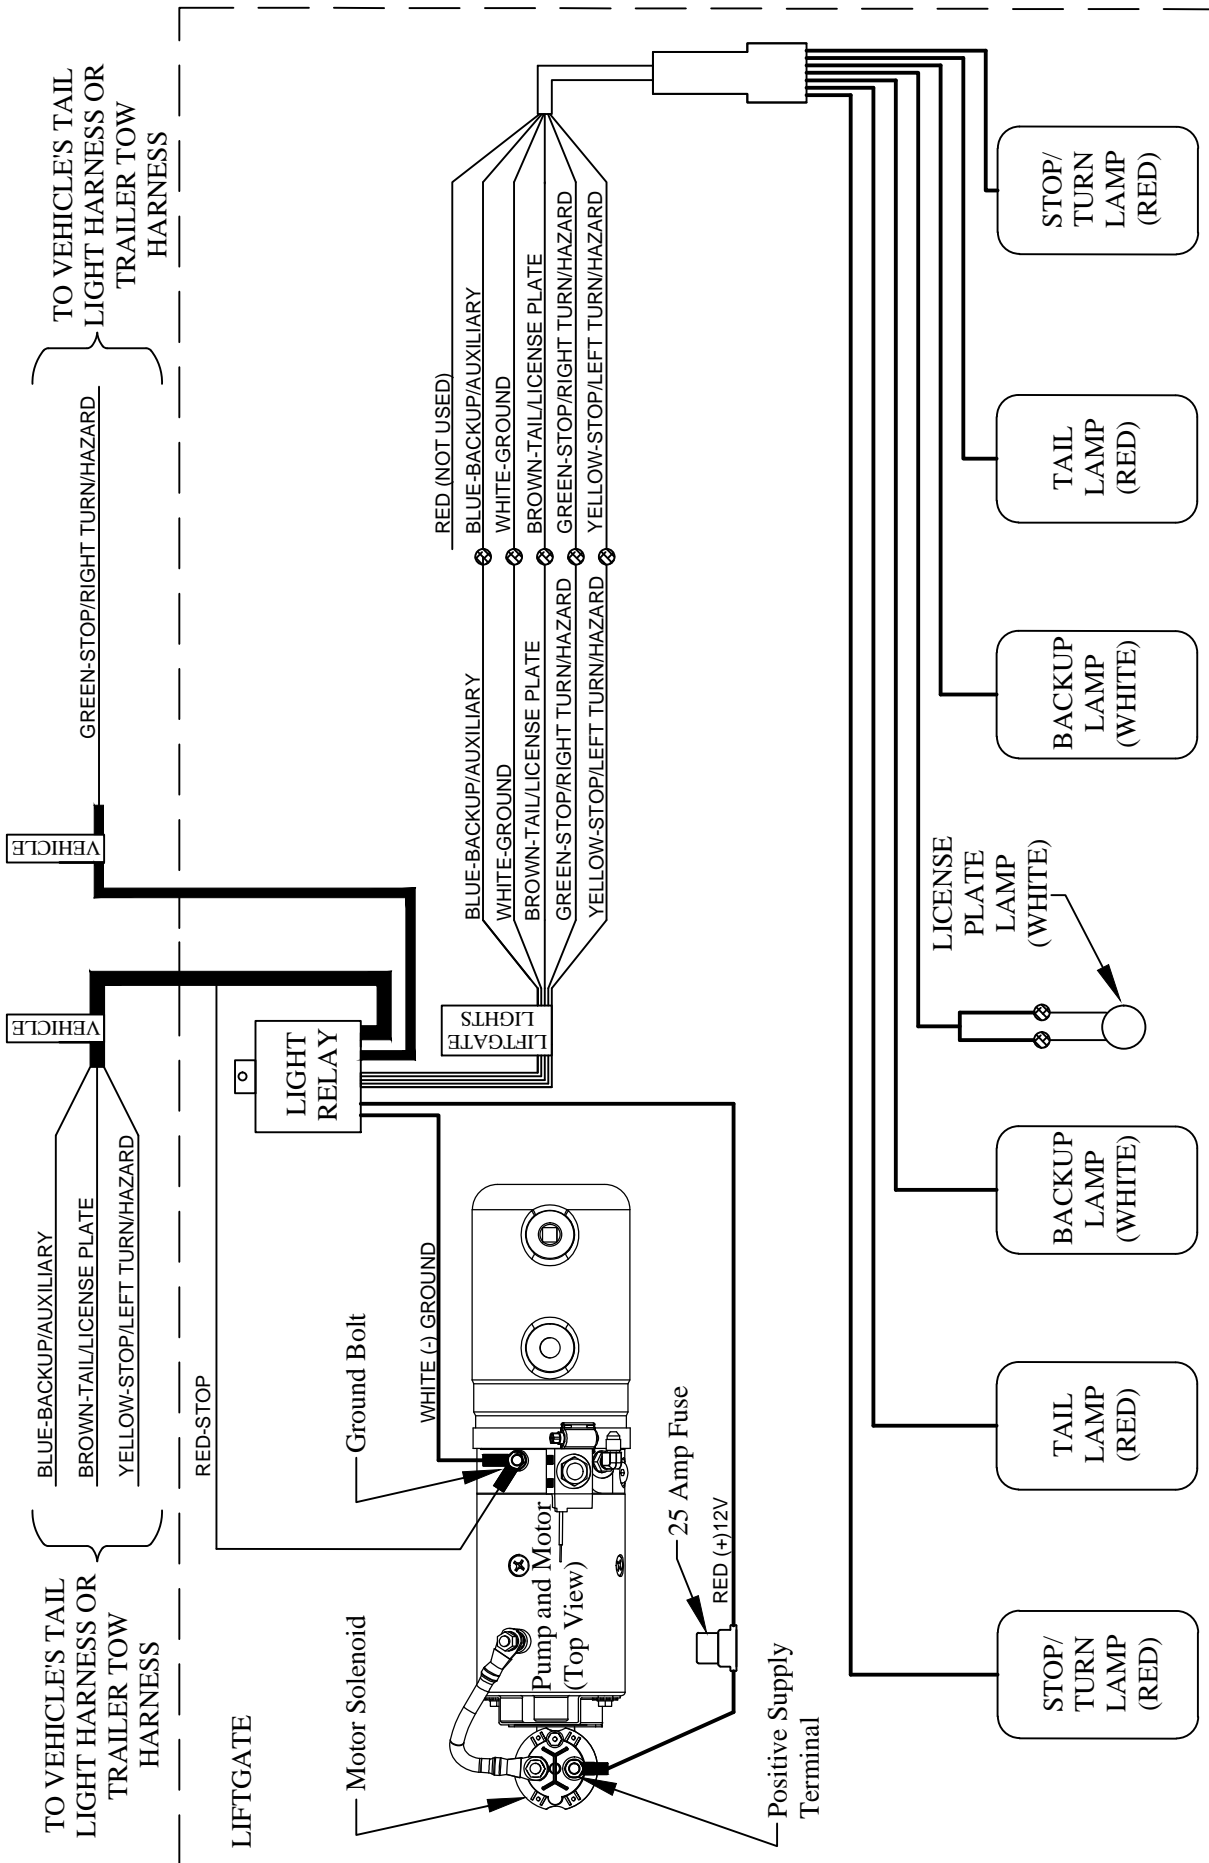
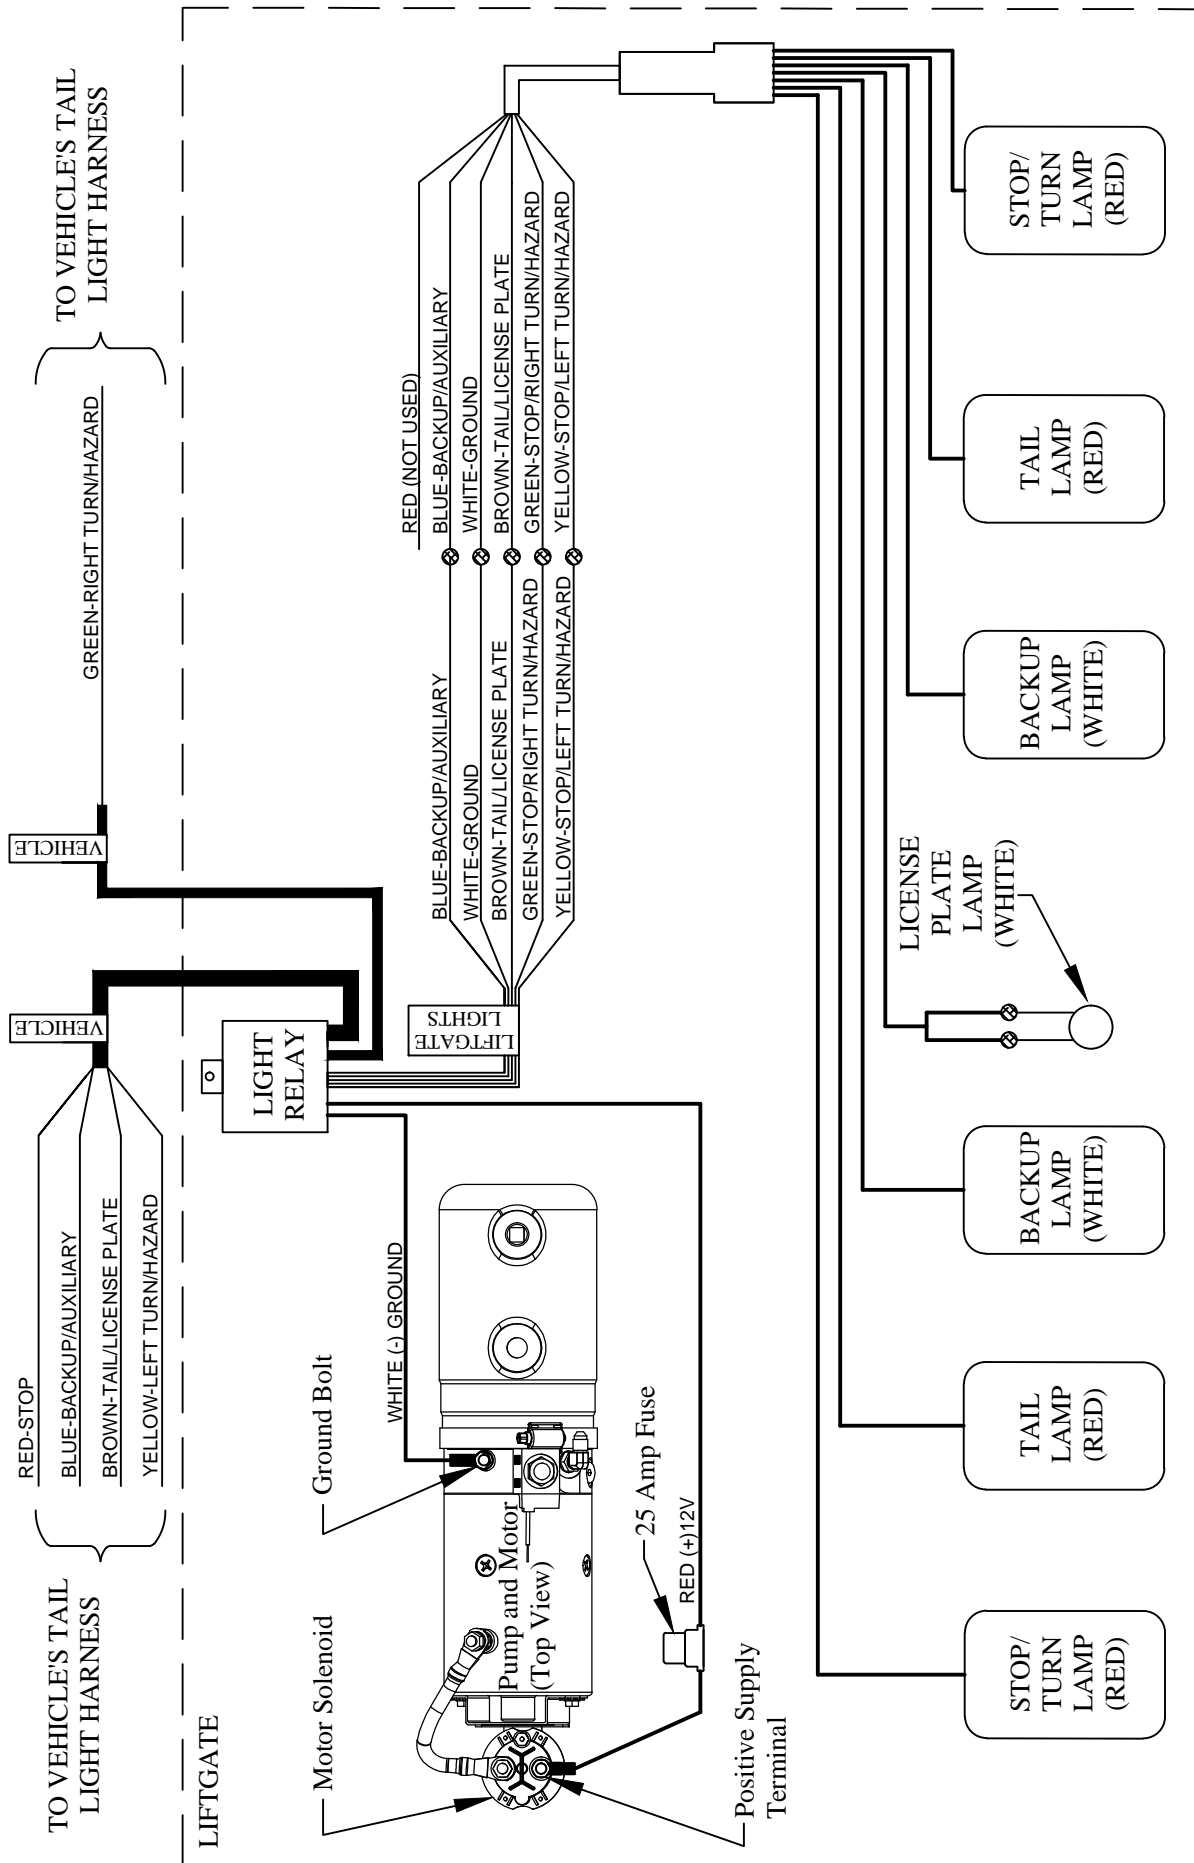

Figure 6: Wiring Diagram, Installing 015862 12V Light Relay on Vehicles with Combined Stop/Turn (2-Wire) Lighting Systems
Figure 7: Wiring Diagram, Installing 015862 12V Light Relay on Vehicles with Separated Stop/Turn (3-Wire) Lighting Systems
13. Connect the relay's red stop wire to the ground bolt on the rear of the hydraulic pump if the relay will be wired to a combined stop/turn (2-wire) system (Figure 6).
14. Connect the relay's ground (-) wire to the ground bolt on the rear of the hydraulic pump (Figure 6 or Figure 7).
16. Connect the relay's input wires, labeled "VEHICLE", by splicing to the corresponding wires in the vehicle's tail light harness or trailer tow harness. Use the provided butt connectors or IDC connectors (Figure 6 or Figure 7).
18. Connect the relay's five output wires, labeled "LIFTGATE LIGHTS", to the corresponding wires in the liftgate's light harness using the provided butt connectors (Figure 6 or Figure 7).
19. Connect the relay's positive (+) wire to the positive (+) supply terminal on the motor solenoid (Figure 6 or Figure 7).
20. **Verify** that the relay wiring matches the corresponding wiring diagram (Figure 6 or Figure 7).